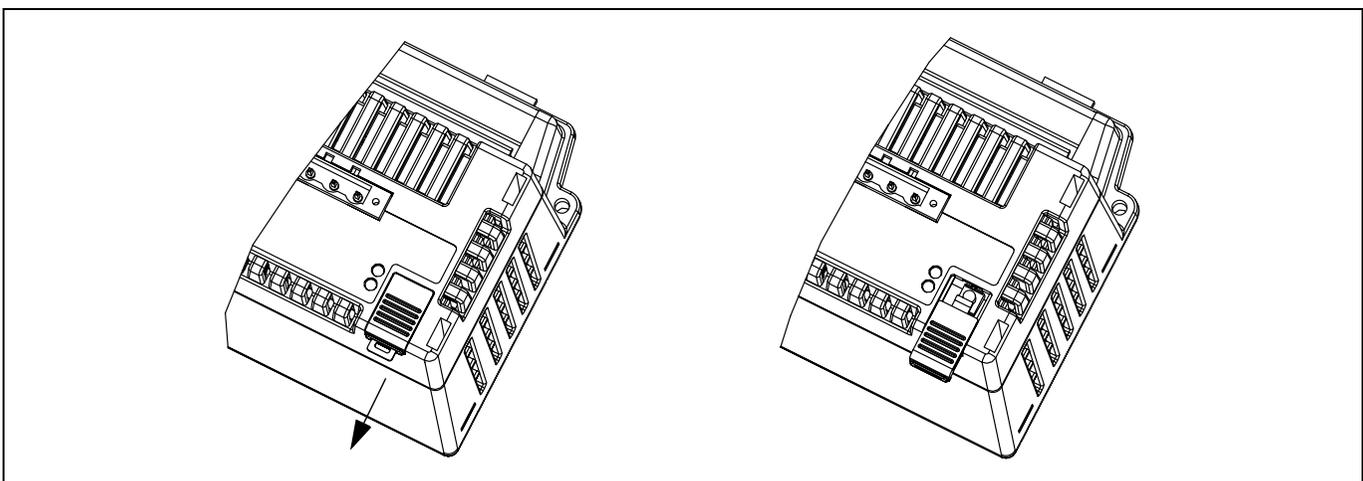

Figure 4–12: Opening the access door
2. Slide the door open as shown in Figure 4–12.